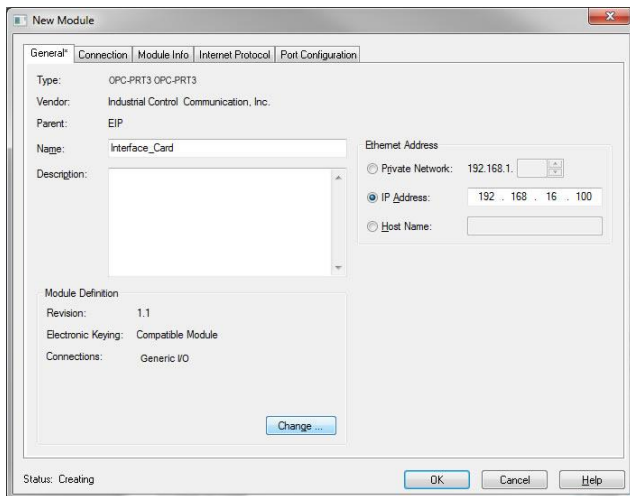

Figure 32: AOP Interface Card Module Properties
- 12) The "New Module" properties dialog box will open as shown in Figure 32.